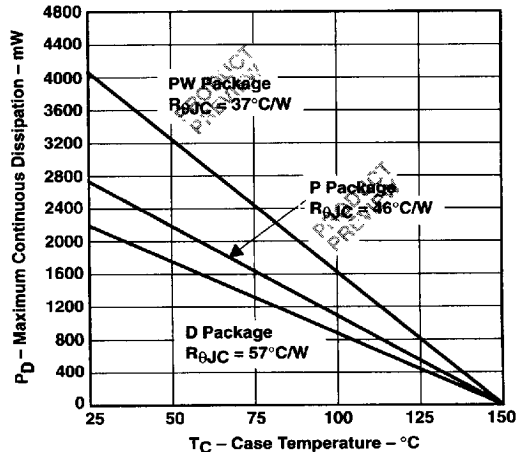

Figure 4
**DISSIPATION RATING TABLE 2 – CASE TEMPERATURE (see Figure 4)**